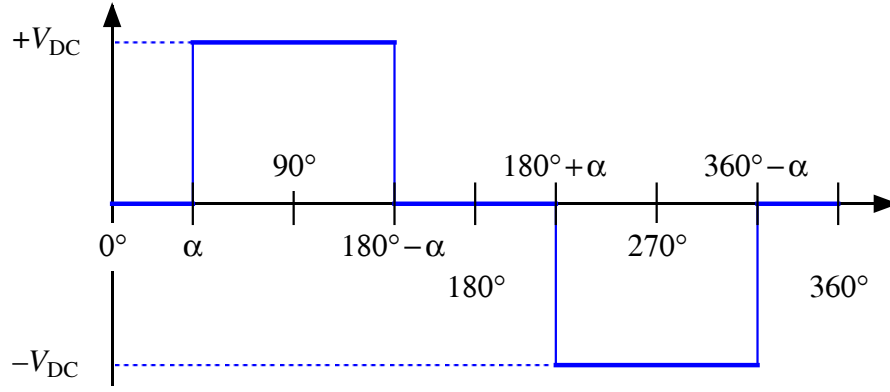

Figure 25. Voltage as a function of time (expressed as an angle) from inverter with output of zero volts for angles of $\pm\alpha$ about the transitions.
- 8.4 The driver of the inverter in question 1 of this section is modified so that the H-bridge gives zero voltage on the output for angles of $\pm\alpha$ around the transitions between $\pm V_{\text{DC}}$ with $V_{\text{DC}} = 100$ V and $f = 50$ Hz as before. The waveform is shown in figure 25 on the next page.